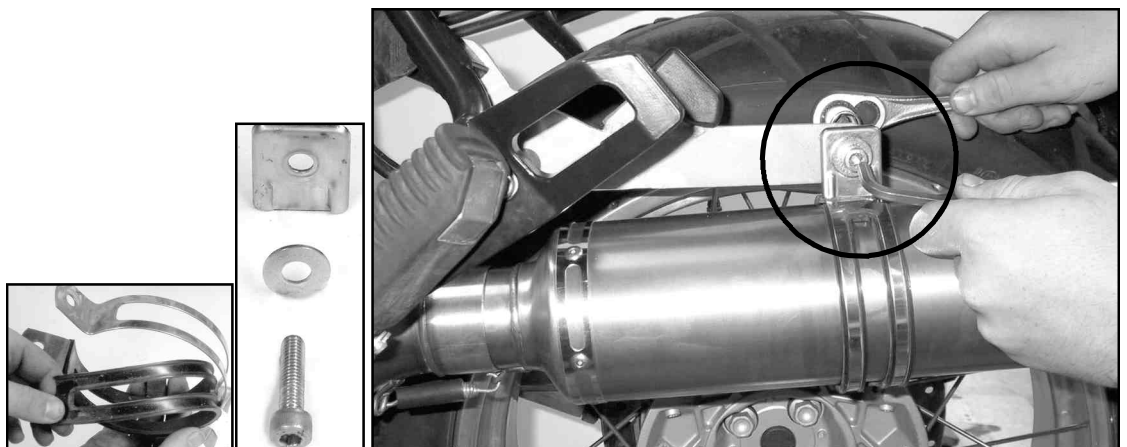

Figure 13
10. Attach the Muffler Hanger Strap, around the Muffler, to the Hanger Bracket. **Figure 13.**